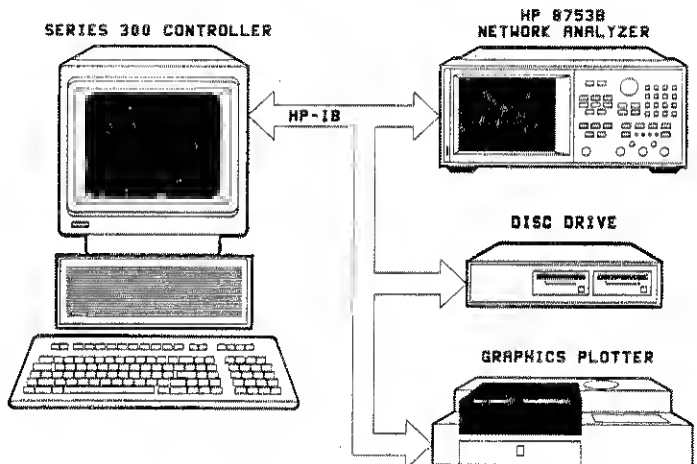

Figure 1. HP-IB connections in a typical setup.
1. **Set up the HP 8753B as shown in Figure 1.**